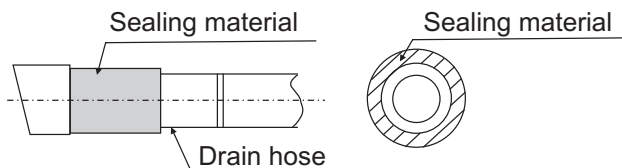

Fig 5.4
- Referring the figure below Fig 5.4, insulate the drain